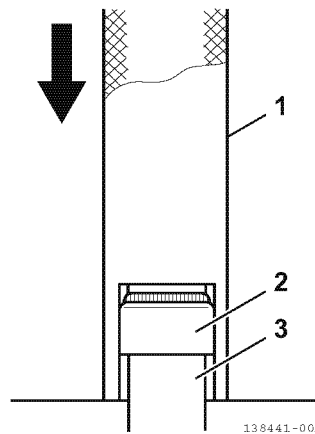

Figure 6-32
1. Oil the lip of the valve stem seal (2, Figure 6-32). Using the valve stem seal installation tool (1, Figure 6-32), install a new valve stem seal on each of the valve guides (3, Figure 6-32).